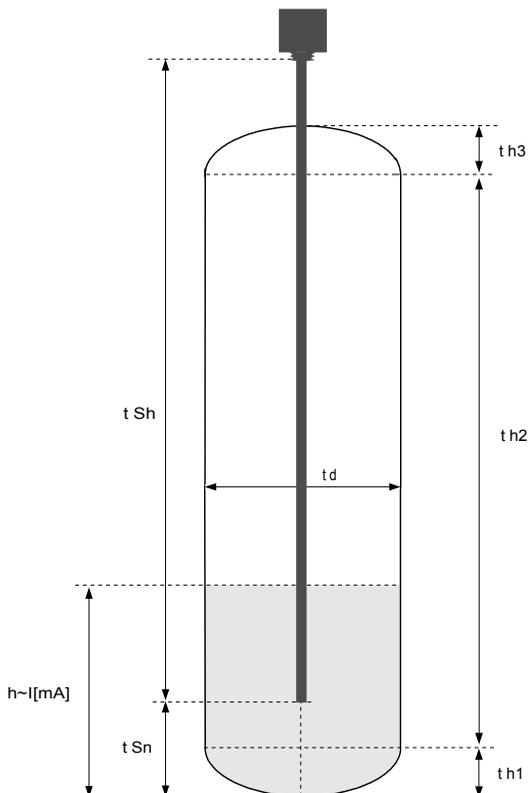
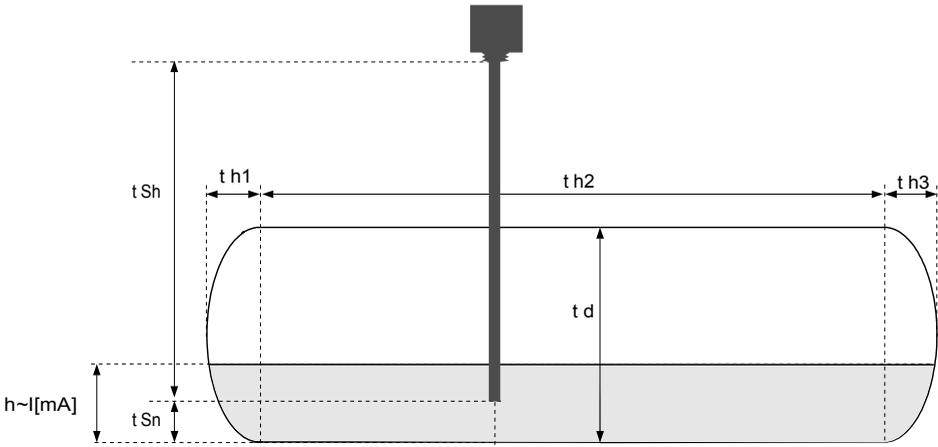

Figure 7.1 Parameters of cylindrical tank in vertical position.
Figure 7.2 Parameters of cylindrical tank in horizontal position.
„t h1", „t h2", „t h3", „t d" - the parameters defining shape of cylindrical tank (Figure 7.1 and Figure 7.2).
- „t Sn", „t Sh" - parameters defining the length and position of the sensor used to measure level of liquids, gases or solids in the tank (Figure 7.1, 7.2).